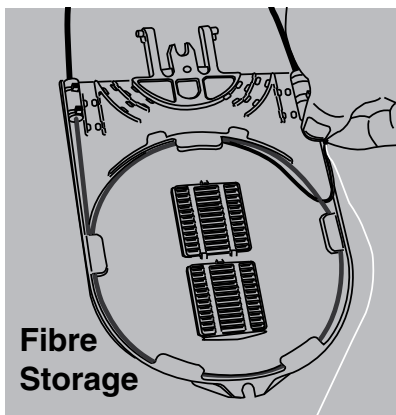

FIGURE 10
10. Prepare the appropriate “drop cable” loose buffer tube to be spliced to the previously prepared “express cable” following steps 3 through 9. Once prepared, attach the “drop cable” loose buffer tube with the ties provided to the SLIDE-N-LOCK splice tray on the opposite side to the secured express cable loose buffer tube. (Figure 10)